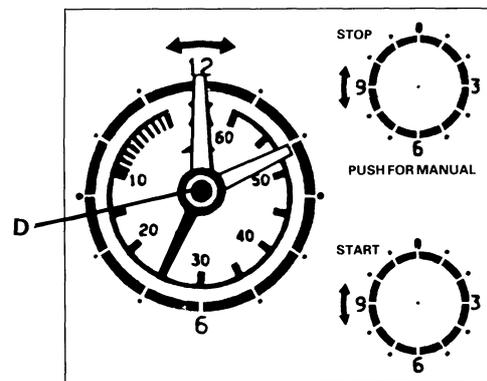

Fig. 2
Without pushing it in, turn control knob (D) in an anti-clockwise direction. A period of upto 60 minutes can be timed using the minute minder, in this case 25 mins as Fig. 2.